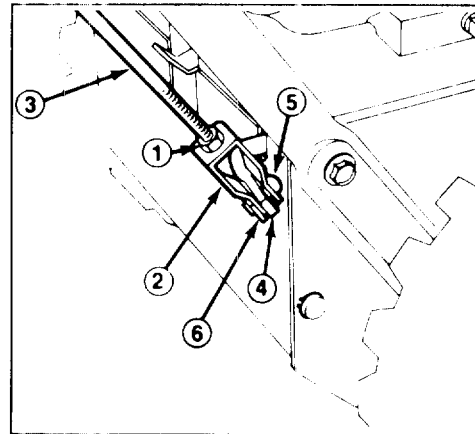

Figure 8
1. Loosen jam nut above clevis on upper control rod (Fig. 8).
2. Align holes in clevis and lower control rod and insert clevis pin (Fig. 8).
clevis up or down to increase or decrease distance between handgrip and auger control lever (Fig. 8).
6. When adjustment is correct, install clevis pin and secure it in place with the cotter pin. Tighten jam nut to secure clevis (Fig. 8).